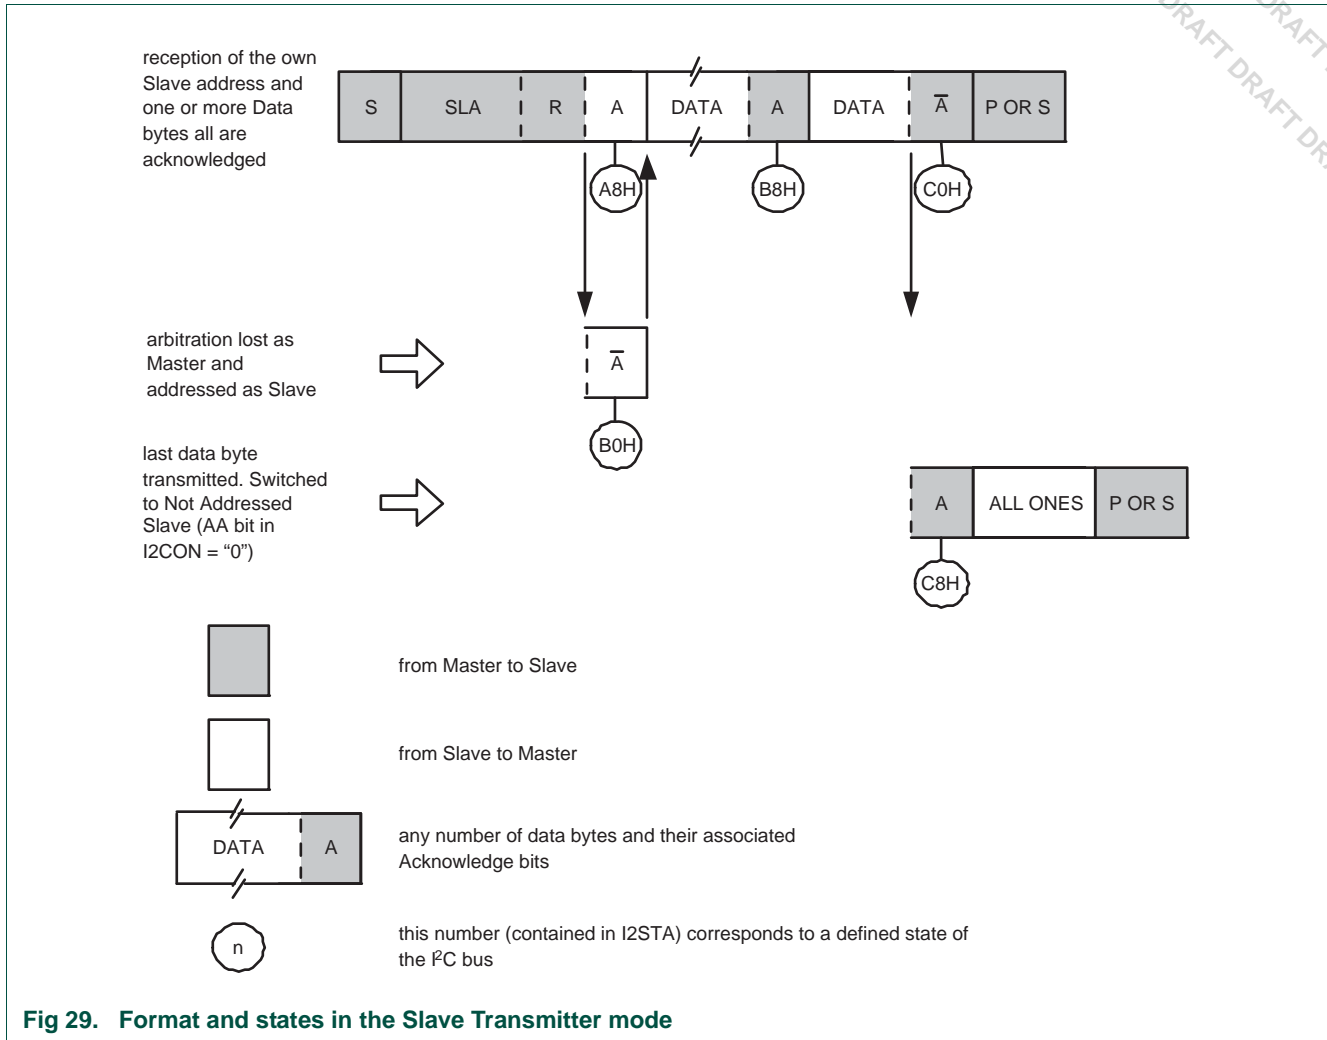

Fig 29. Format and states in the Slave Transmitter mode
In the slave transmitter mode, a number of data bytes are transmitted to a master receiver (see Figure 29). Data transfer is initialized as in the slave receiver mode. When I2ADR and I2CON have been initialized, the I2C block waits until it is addressed by its own slave address followed by the data direction bit which must be “1” (R) for the I2C block to operate in the slave transmitter mode. After its own slave address and the R bit have been received, the serial interrupt flag (SI) is set and a valid status code can be read from I2STAT. This status code is used to vector to a state service routine, and the appropriate action to be taken for each of these status codes is detailed in Table 159. The slave transmitter mode may also be entered if arbitration is lost while the I2C block is in the master mode (see state 0xB0).